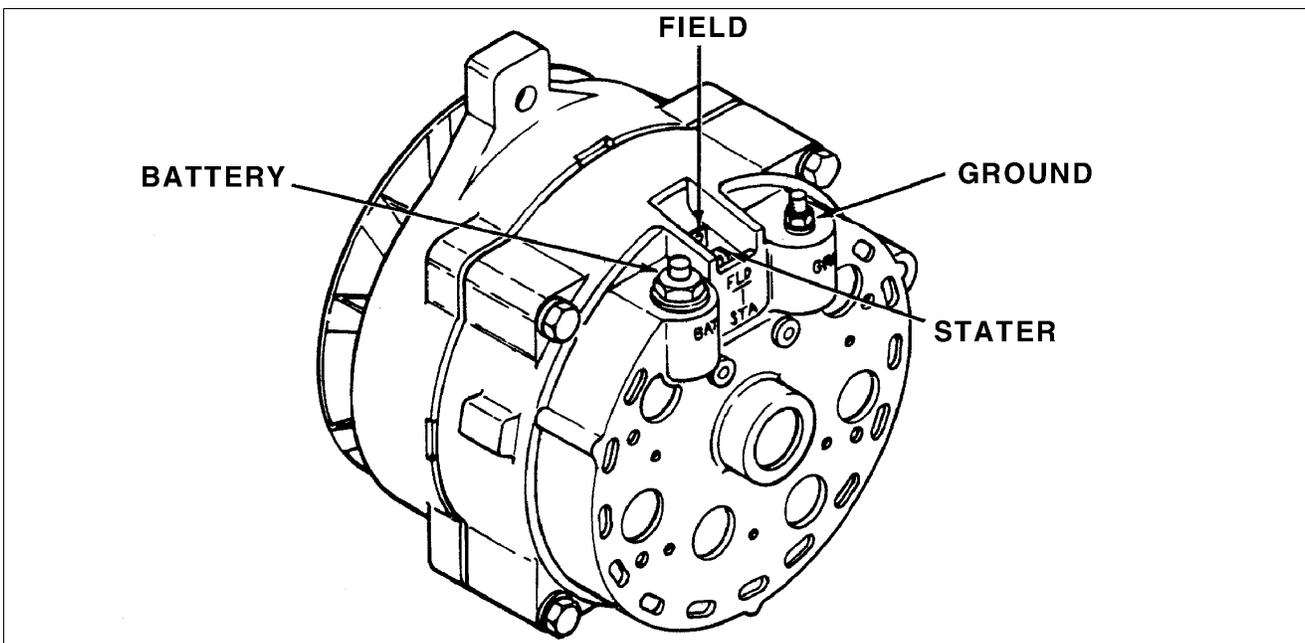

Figure 24-2. Rear View and Terminal Identification
- b. The rear housing (2) is also a die-cast aluminum part which supports the rotor shaft rear bearing and provides mounting bosses for the rectifier assembly. The housing contains the various electrical connections and openings for cooling airflow. (Refer to Figure 24-2 for Terminal identification.)